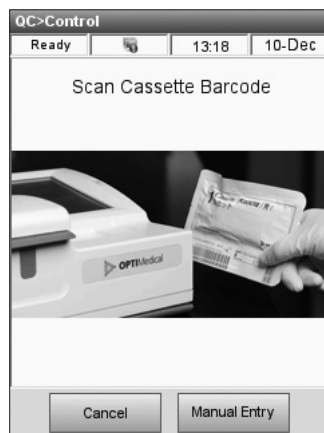

Fig. 4-15 Scan Bar Code
- Scan the bar-coded strip on the OPTI Cassette package by holding it 2-3 inches (5-8 cm) from the bar code scanner located on the bottom right-hand corner of the analyzer to automatically record the lot and calibration information for the specific cassette (Fig. 4-15).